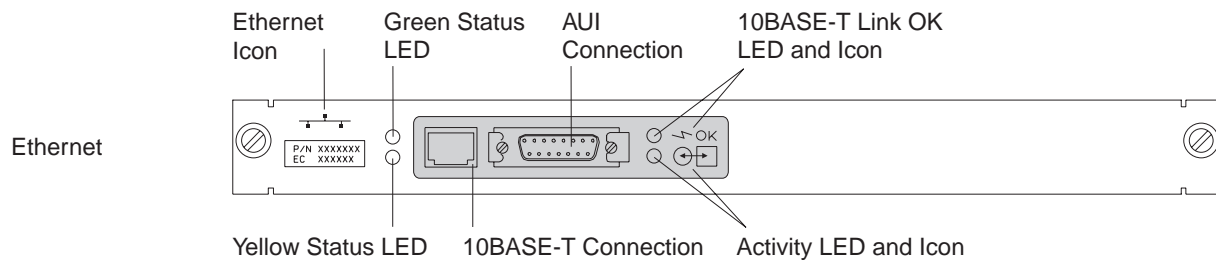

Figure 2-9. Ethernet Attachment Module
- c. \_\_\_\_ Plug wrap plug **C** (PN 70X8670) in the AUI connector of the Ethernet module (refer to Figure 2-9 on page 2-9).